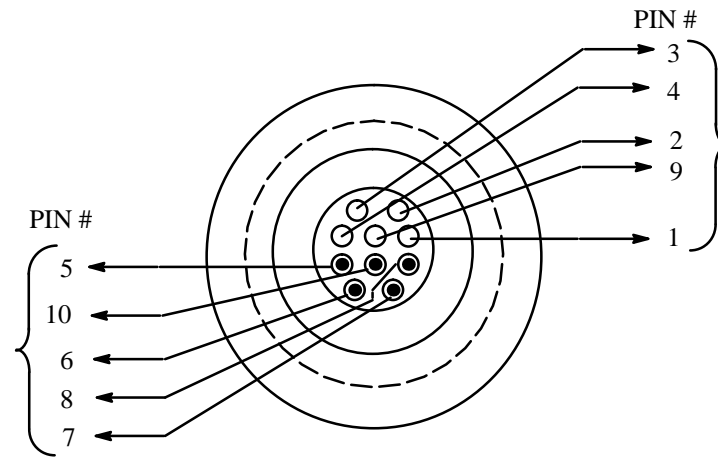

Figure 1. EXT ACC Pin Layout Configuration
4.1.2.2 Connect the DMM positive lead to the TI EXT ACC pin 1 connector and the DMM negative lead to the TI EXT ACC pin 9 connector. See Figure 1 for pin layout of the TI EXT ACC connector.
4.1.2.4 Move the DMM positive lead to the TI EXT ACC pin 3 connector (see Figure 1), and verify that the DMM indicates between +4.85 and +5.30 V dc.
4.1.2.5 Move the DMM positive lead to the TI EXT ACC pin 2 connector (see Figure 1), and verify that the DMM indicates between -11.5 and -12.5 V dc.